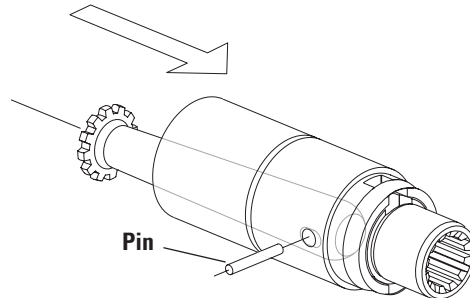

Figure 23
19. Position spool and sleeve assembly so that splined end of spool enters 14 hole end of housing first (figure 23).